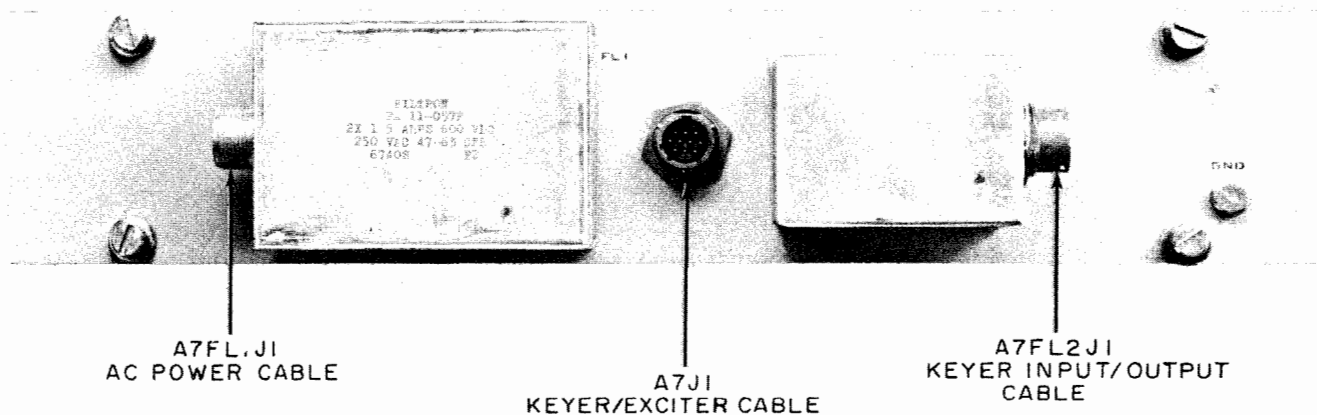
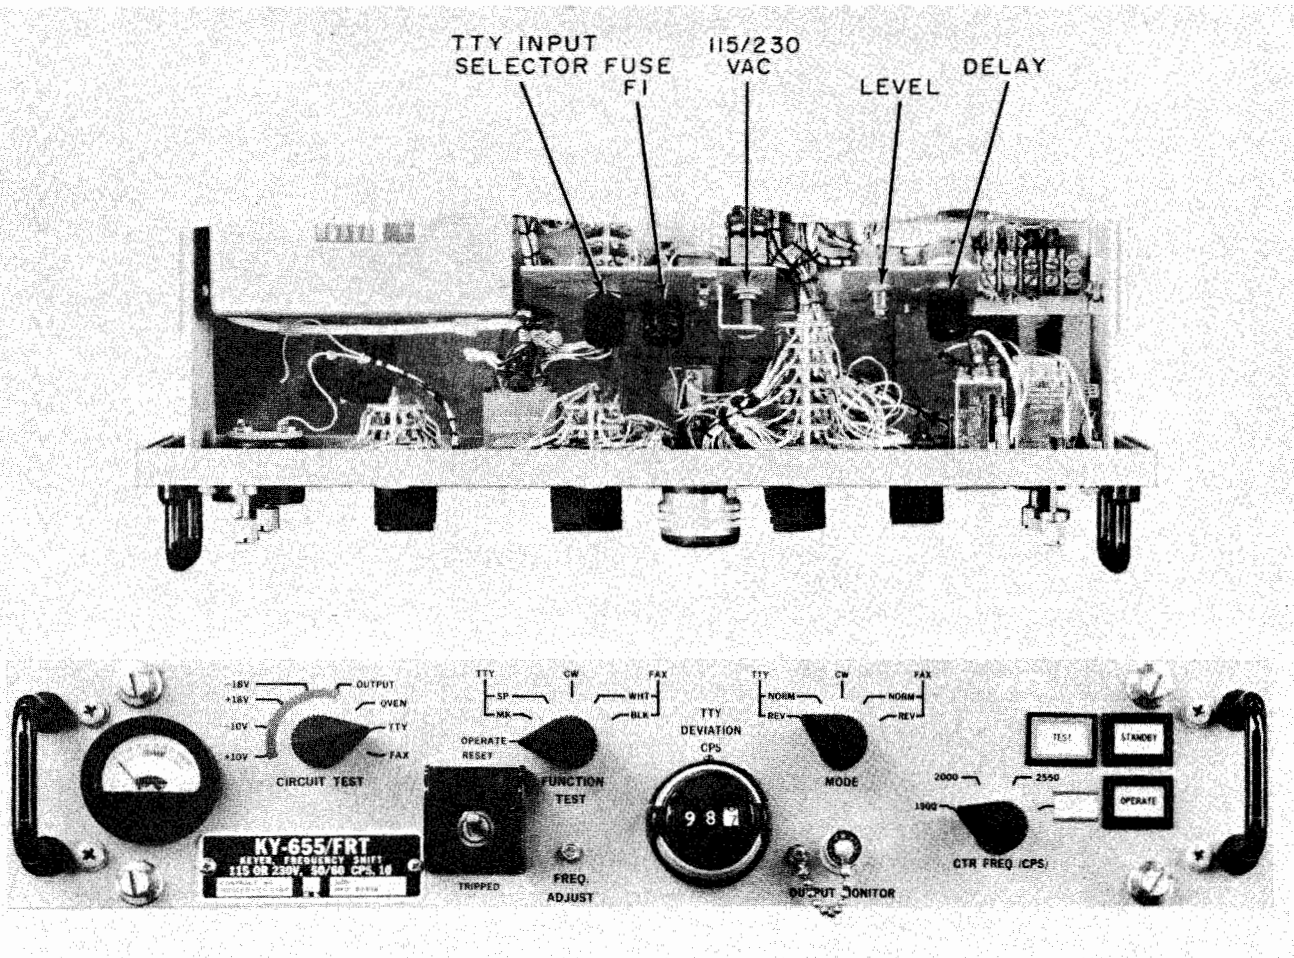

Figure 2-2. Location of External Cable Connections to Keyer
Figure 3-1. Frequency Shift Keyer KY-655/FRT,
(1) To open the drawer, loosen the panel captive screws and pull the drawer out on its slides. It will lock in a fully extended position.
(2) To index the drawer on its horizontal axis, pull the levers forward on both sides simultaneously. Rotate the drawer and release the two levers to lock the drawer at the desired position.
(3) To close the drawer, index it to its horizontal position. Press the forward latches on both slides simultaneously. Close the drawer and secure with the panel captive screws.
d. EXTERNAL CABLES. - Three external cables are required for connection to receptacle on the rear filter panel of the keyer enclosure (figure 2-2). Two of these cables are not supplied with the keyer because of variations in installation requirements. Mating
(2) CONNECTION TO KEYER. - Figure 2-2 shows the location of all external connections at the rear of the keyer enclosure. If rear access is limited at the relay rack or cabinet, the external cables can be connected just prior to installation of the enclosure. Otherwise, make all cable connections following the enclosure installation.
(3) COMPLETING CABLE CONNECTIONS. - To complete external cabling at the keyer unit, the following connections are to be made:
b. INITIALLY ENERGIZING KEYER. - The location of each operating control is shown in figure 3-1. Table 3-1 gives a brief description of the control functions and indicates their preset positions. To energize the transmitter initially, perform the following steps in the order presented:
Make sure the 115V/230 vac toggle switch (figure 3-1) is in the position which corresponds with the primary power source voltage.
(1) Set the TTY INPUT SELECTOR on the keyer subpanel (figure 3-1) to the appropriate position (60 MA, 20 MA, 100V, 50V, POLAR, or DRY CONT) for the type of TTY transmitter used.
(2) Connect the TTY transmitter which is to be used at the installation site to the keyer input jack A7FL2J1 (figure 2-2). Refer to the appropriate technical manual for the TTY transmitter used.
(3) Set the FUNCTION TEST switch to OPERATE and the CIRCUIT TEST switch to TTY. The CIRCUIT TEST meter will read in the green segment when the TTY transmitter is transmitting.
(1) Terminate the keyer output with a 600-ohm load across A7FL2J1 (figure 2-2), pins K and R.
(2) Connect an audio level meter (H-P 403A or equivalent) across the 600-ohm load.
(3) Set the FUNCTION TEST switch to OPERATE and energize the TTY transmitter; ground A7 J1-E (to switch from EXT LINE to keyer output).
(4) Set the DELAY switch (figure 3-1) to MAX and adjust the LEVEL control for the required output level as measured on the audio level meter. (An output level of 0 dbm may be obtained by setting the CIRCUIT TEST switch to OUTPUT and adjusting the LEVEL control until the CIRCUIT TEST meter reads in the green segment.
a. DESCRIPTION OF CONTROLS. - All controls for keyer operation are located on the front panel with seldom used controls available on a subpanel, which is exposed when the drawer is opened. Figure 3-1 shows the location of all controls, and table 3-1 supplies a functional description of each control. In addition, table 3-1 provides the "preset" control
e. NONOPERATING CONTROLS. - The following controls are intended for use by technicians in adjusting and calibrating the keyer and should be adjusted by a qualified technician only; figure 3-1 shows control locations.
(1) FUNCTION TEST. - A six-position selector switch, used during initial performance tests only, to check the keyer outputs while the keyer is in operation independent of other system units.
(2) FREQ ADJ. - A potentiometer adjustment for calibrating the keyer output frequency.
(3) 115V/230 VAC. - A toggle switch for selecting keyer operation from either a 115-volt or 230-volt ac primary power source.
(4) TTY INPUT SELECTOR. - A six-position selector switch used to match the keyer tty input circuit with various teletype output loop currents and voltages.
(5) DELAY. - A potentiometer adjustment for setting the transition relay delay or "release" time.
(6) LEVEL. - A potentiometer adjustment for setting the keyer audio output level.